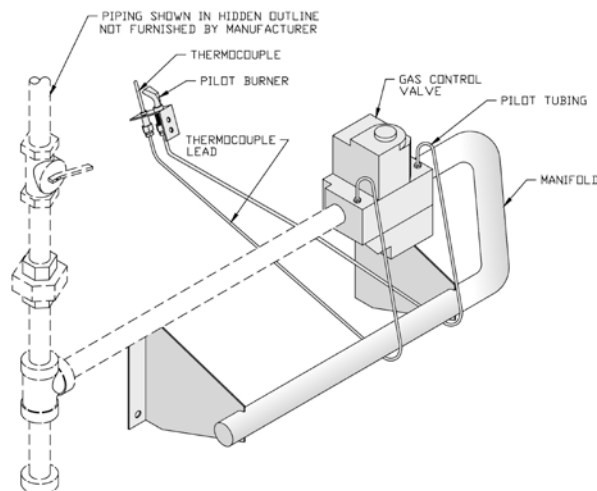

Figure 11: Pilot and Gas Piping, Continuous Ignition (Standing Pilot) (IN3 through IN9 Only)
H. Install Gas Valve on main gas burner assembly (if not factory assembled). See Figure 11, 12, 13, or 14.